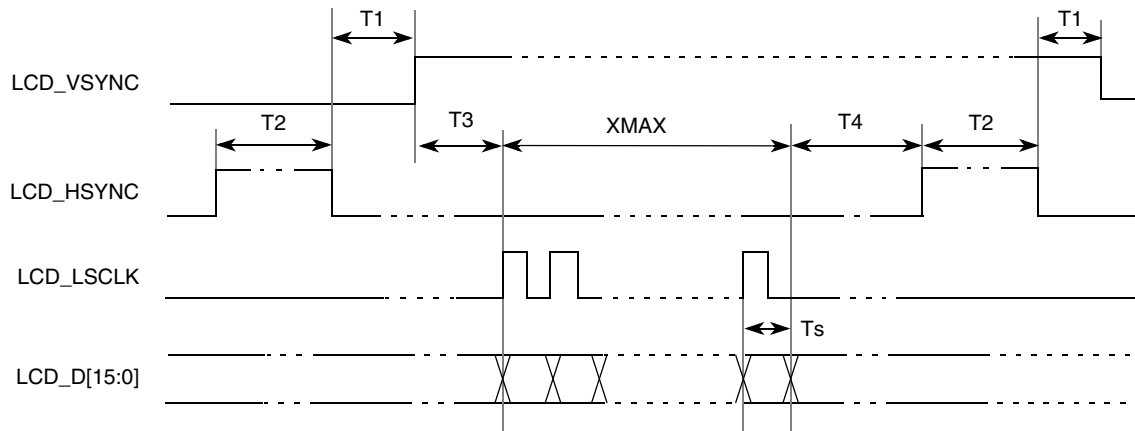

Figure 22. Non-TFT Mode Panel Timing
**Note:** Ts is the LCD\_LSCLK period while Tpix is the pixel clock period. LCD\_VSYNC, LCD\_HSYNC, and LCD\_LSCLK can be programmed as active high or active low. In Figure 22, all these 3 signals are active high. When it is in CSTN mode or monochrome mode with bus width = 1, T3 = Tpix = Ts. When it is in monochrome mode with bus width = 2, 4 and 8, T3 = 1, 2 and 4 Tpix respectively.